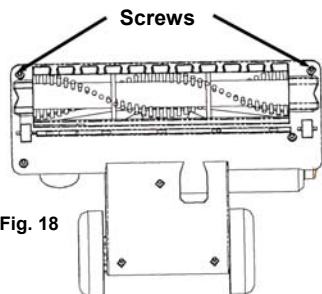

Fig. 18
- Use a Phillips #1 screwdriver and remove the two (2) front screws from the bottom of the motorized floor brush. (Fig. 18)
- Remove the brush carefully by first lifting the right side of the brush and then the left side of the brush. Be careful not to lose the end caps and washers (x2). (Fig. 18)